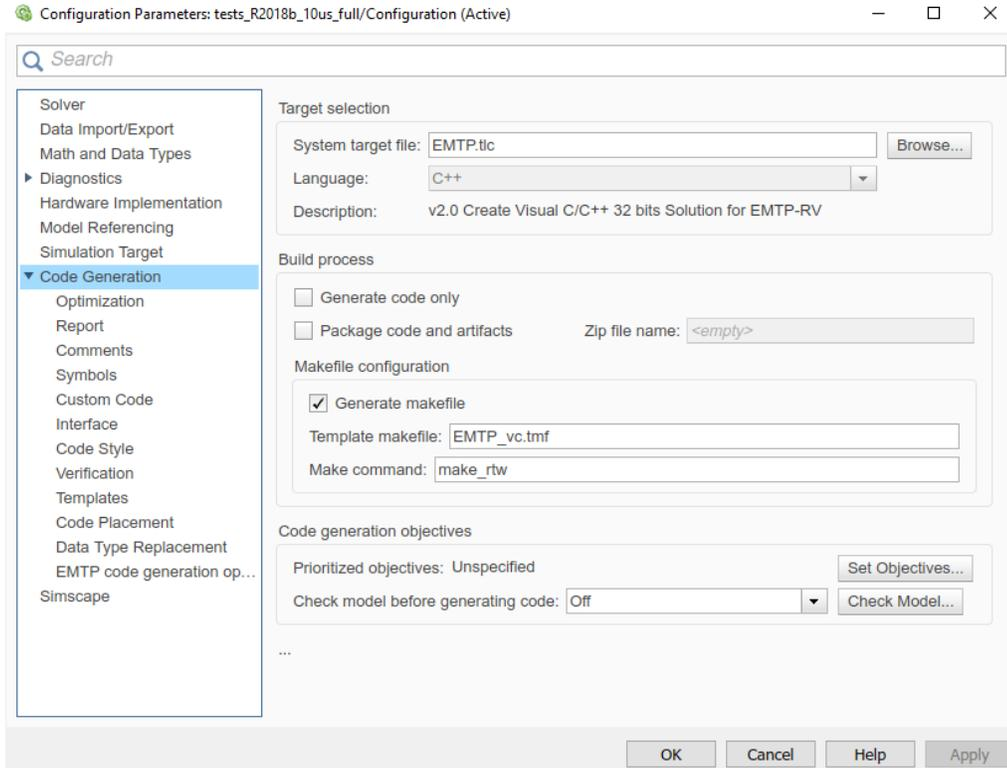

Figure 2 Simulink Model Configuration Parameters, Code Generation.
- a. It is necessary to locate and select the “System target file” EMTP.tlc using the Browse button as shown in Figure 2.